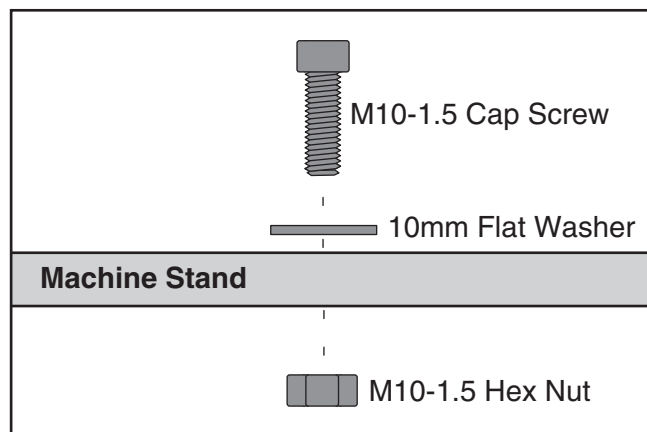

Figure 4. Mounting hardware configuration.
Use (2) M10-1.5 x 20 cap screws, (2) 10mm flat washers, and (2) M10-1.5 hex nuts to secure machine to stand, as shown in **Figure 4**.